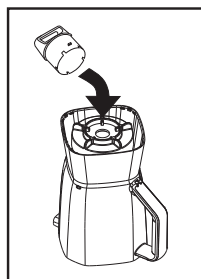

Fig. 17
4. Turn the black threaded jar bottom down and place it over the small opening of the jar and the bottom of the blade. Turn clockwise to tighten (Fig. 17). Be sure the black threaded jar bottom is locked securely to the jar before use.